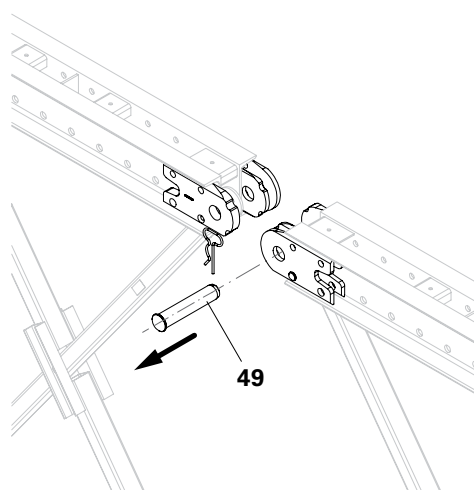

Fig. E2.03
1. Unscrew the Coupling Shoes (5) in the top and bottom chords.
2. Remove the connecting bolts (49) from the adjacent frame element. (Fig. E2.03 + E2.04)
4. Dismantle Bracing Posts (6).
5. Unscrew Bracing Shoes (3), Vertical Bracing Shoes (4) and Coupling Shoes (5).
8. Remove the connecting bolts (49) from the adjacent frame element. (Fig. E2.03)